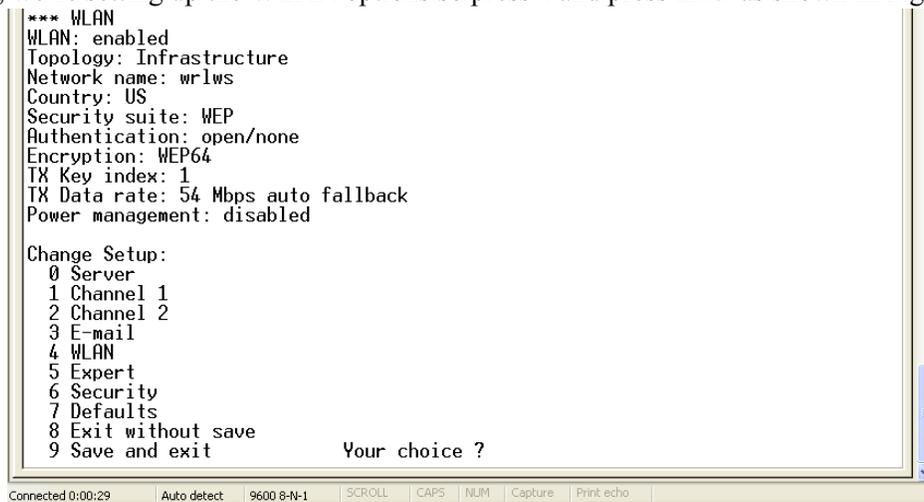

Figure 10. Change Setup Screen
- Select an option on the menu by entering the number of the option in *Your Choice?* field and press **Enter**. In this case, we're setting up the WLAN options so press 4 and press **Enter** as shown in Figure 10.